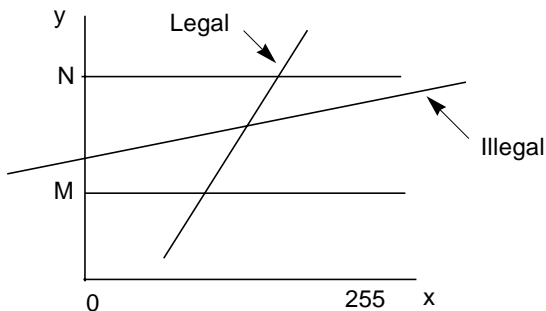

FIGURE 7-1 Creator Depth-cueing
- The parameters for `xil_rescale` must be chosen such that y values of the line represented must span the range of values between N and M while the x values are within 0 and 255. See FIGURE 7-1.